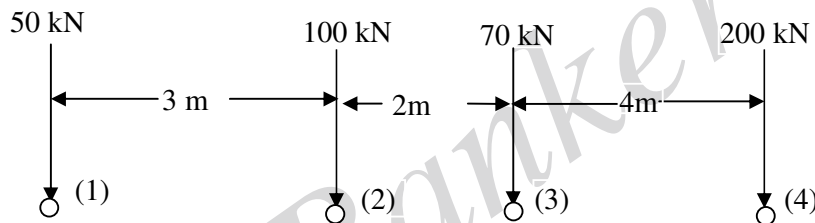

Figure 6
b) Determine absolute maximum left and right reactions for a simple beam 15m span with a series of loads shown in Figure 6.